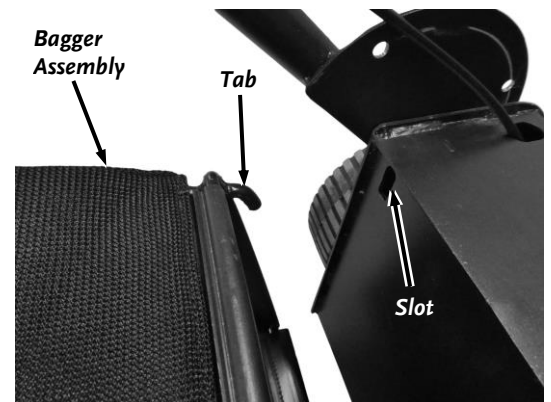

Figure 16
1. Hold the Discharge Guard in the upright position as you place the tabs of the Bagger Assembly into the slots in the rear Frame on both sides (**Figure 16**).